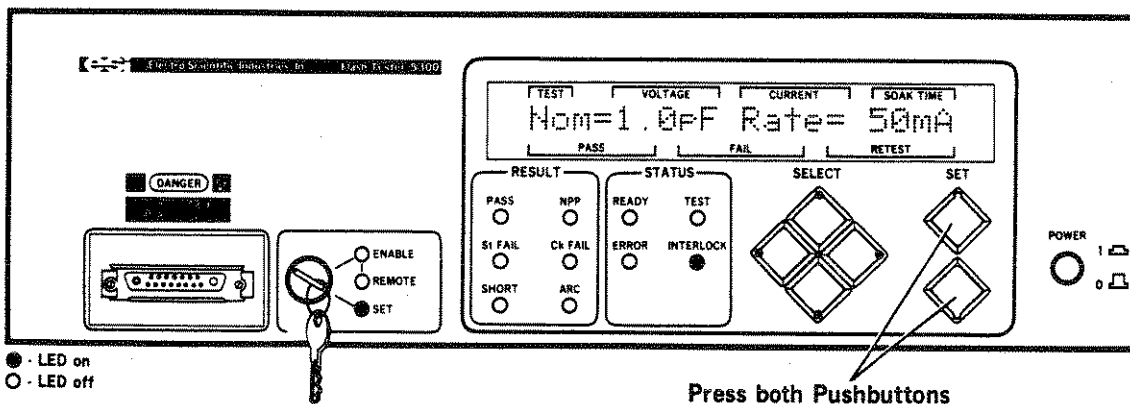

Figure 3-33. Entering the Configure Mode
STEP 1. While still in the Set mode (at the Bin Count Totals screen), press the UP pushbutton three times to return to the Nominal Capacitance and Charge Rate screen. Press INC and DEC simultaneously to enter the Configure mode. Refer to Figure 3-33.